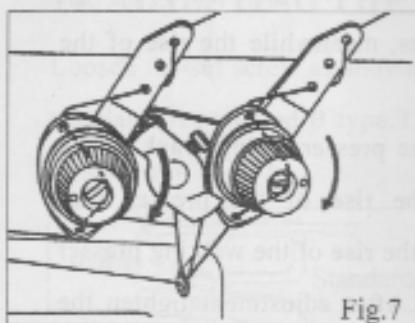

Fig.7
7. THREAD TENSION (Figs.7,8 and 9)